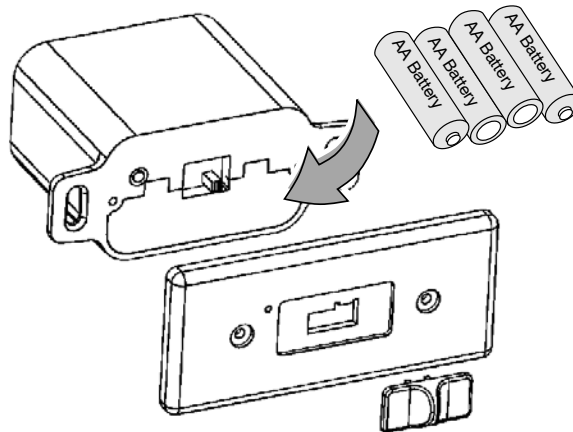

Figure 31
Install four AA batteries into the receiver (see Figure 31). You can use the batteries from the battery backup tray on the appliance. See the installation instructions for details. These batteries control the comfort control and act as a power-backup in case the household (AC) current goes out.